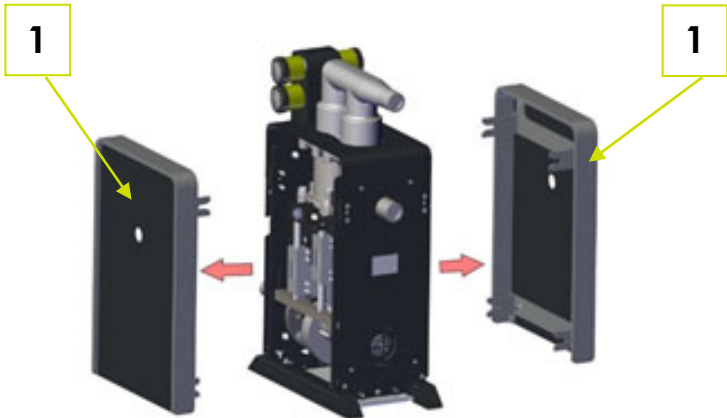

Fig. 4-3: Dismounting the side Cover
3. Take off the side Cover elements (1) in the direction of the arrow (Fig. 4-3: Dismounting the side Cover).